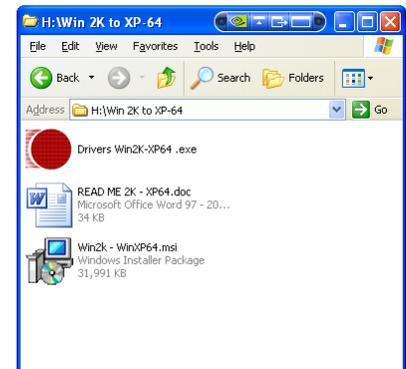

Figure 11. MIDG Software and Utilities CD-ROM folder containing SLC2JUSB Drivers.
1. **On the MIDG Software and Utilities CD-ROM, Select the driver file from the same folder from which the MIDG Software and utilities was selected. (Figure 11).** This is the appropriate drivers for the software installation.